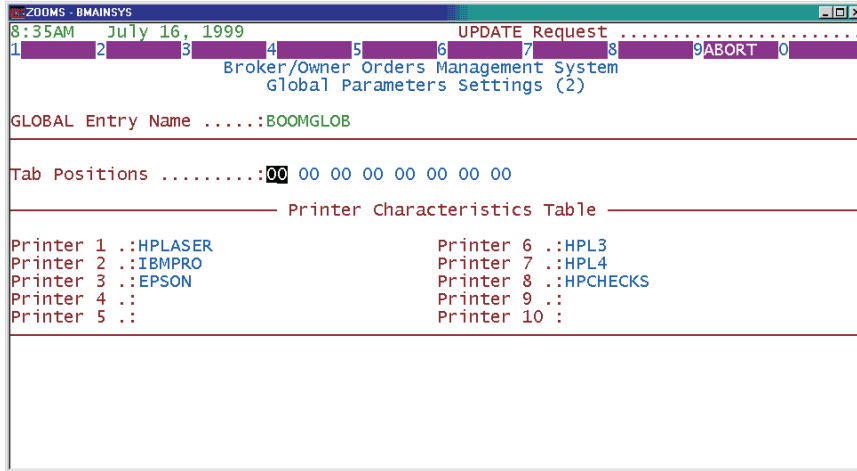

Figure 24.2. Sample Global Parameters Settings (2) Screen
- Replacing of the “Global Parameter Settings” Screen with the “Global Parameters Settings (2)” Screen (Figure 24.2).